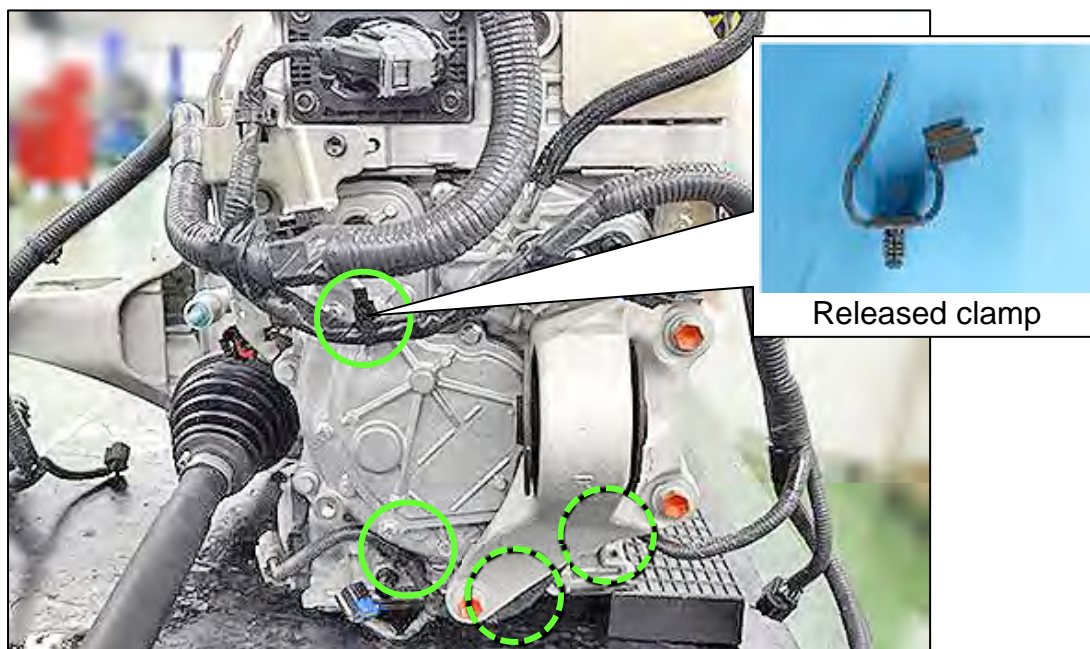

Figure 85
107. Unlock the four (4) wiring harness clamps on the passenger (RH) side wiring harness (Figure 85). Two (2) wiring harness clamps are hidden behind motor mount.